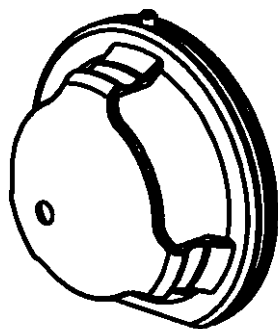

Figure 3-1. Ion sweep cone
Open the lid to the API source and remove the septum from the entrance to the ion transfer capillary. Reinstall the ion sweep cone on the spray cone. See Figure 3-1. Recheck the vacuum levels. Finally, close and secure the lid of the API source chamber.
4. Remove the ion sweep cone (Figure 3-1) from the spray cone and place it on a large Kimwipe® (or other lint-free tissue).